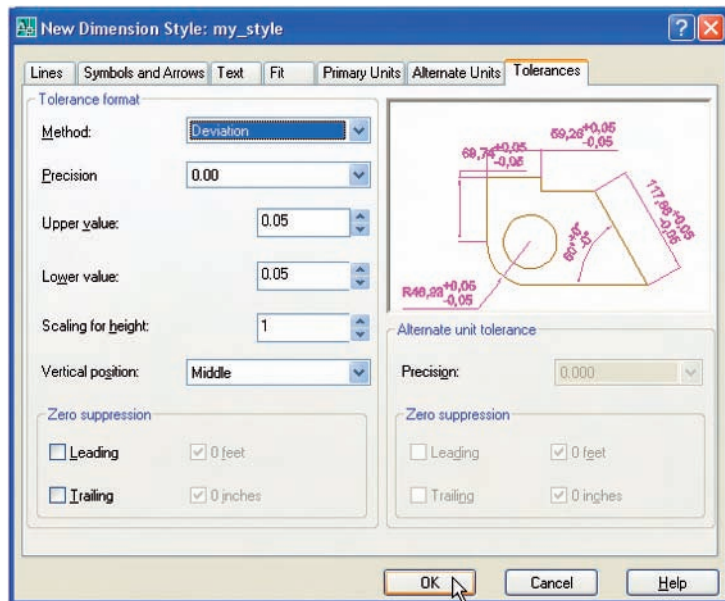

Fig. 6.23 The **Tolerances** sub-dialog of the **Dimension Style Manager**
3. Click the **Tolerances** tab and in the resulting sub-dialog, make settings as shown in Fig. 6.23. *Left-click* the **OK** button, then in the